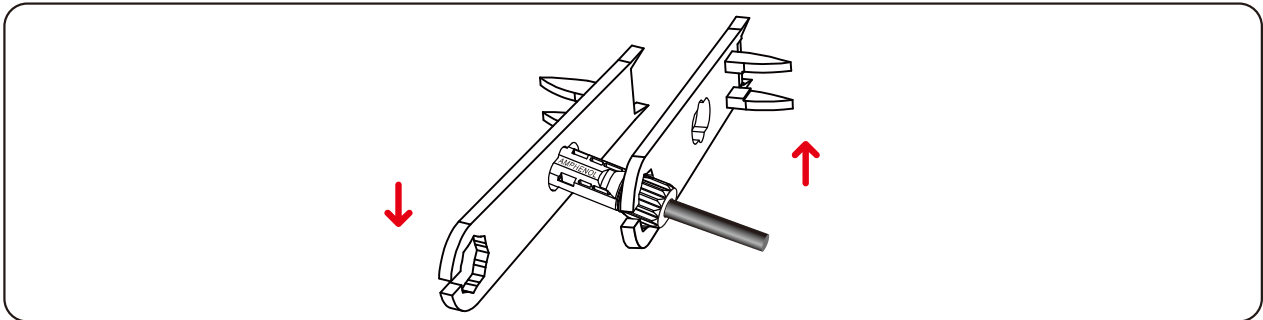

Figure 5.14 Locking connectors
**Step 4** Tighten the locking nuts on the positive and negative connectors by using a removal wrench, as shown in Figure 5.14.